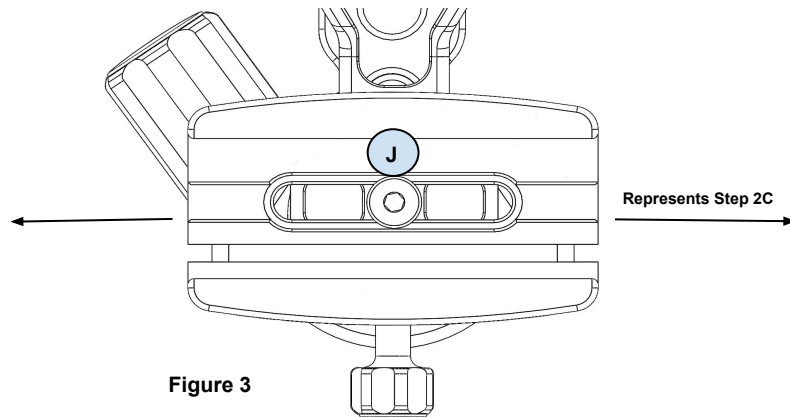

Figure 3
Step 2C If you determine that you are not comfortable with the placement of the lens plate in the quick release mounting platform, you have the ability to adjust the quick release platform (J) to a position you are more comfortable with. To achieve this, you will need to loosen the quick release placement screw (I) with the built-in 3/16" allen wrench as in **Figure 3**. **Make sure to retighten screw (I).** By doing this step, you will need to rebalance your lens, following directions in **step 2B**.